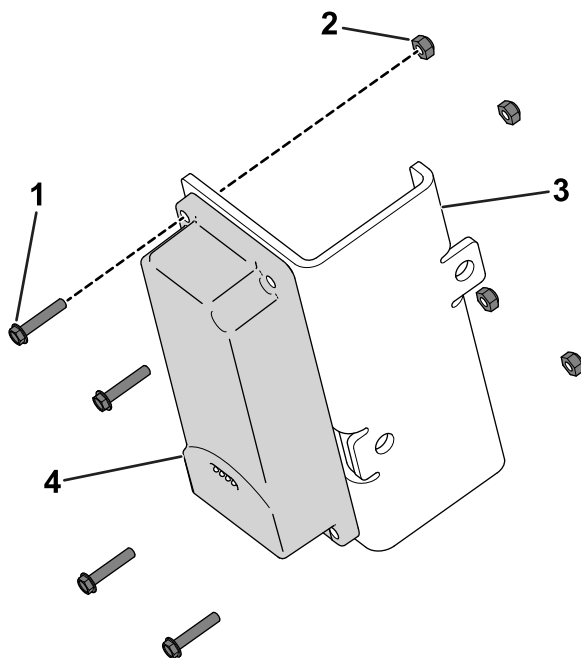

Figure 5
1. Use 4 hex-head bolts (#10 x 1 inch) and 4 locknuts (#10) to secure the telematics device to the device bracket (Figure 5).